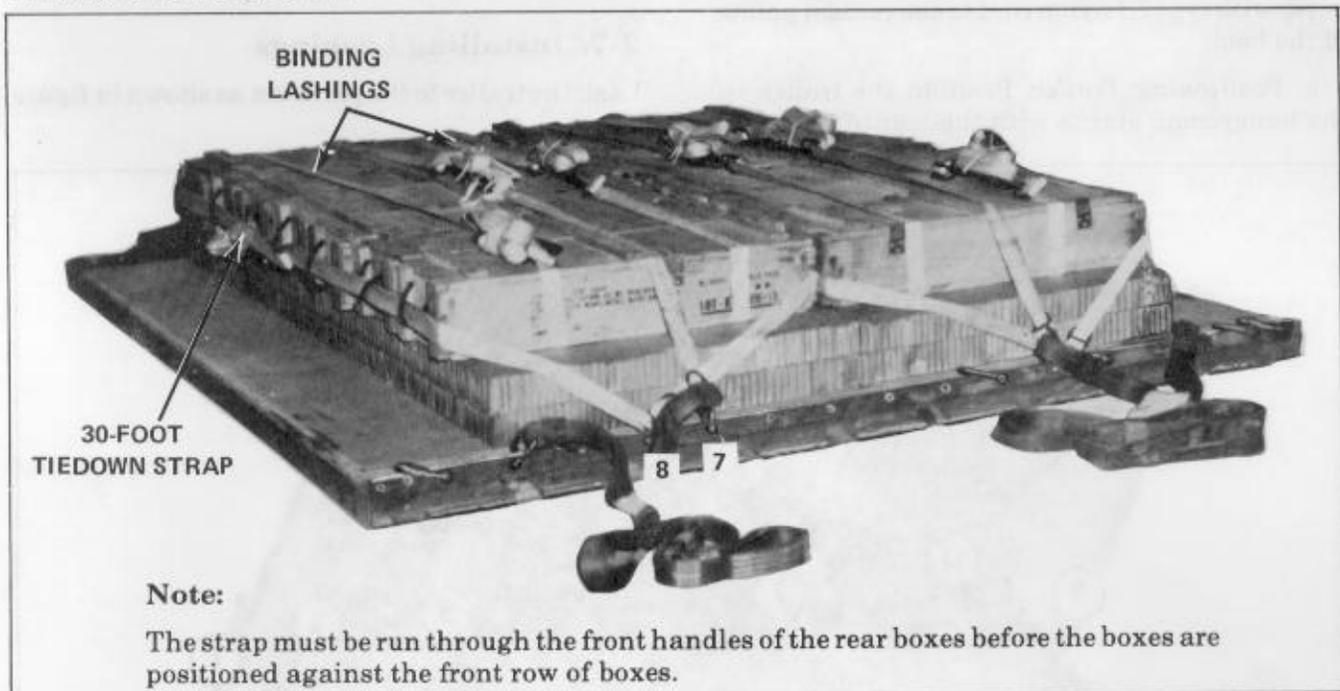

Figure 2-6. Rear row of boxes secured.
(4) Position seven boxes of 105-millimeter ammunition on rear pieces of honeycomb. Bind with the previously positioned binding lashings. Secure the lashings with two load binders and four heavy-duty D-rings.
(5) Use five 15-foot tiedown straps, five heavy-duty D-rings, and three load binders, and secure the boxes to the platform (fig 2-6) as follows: